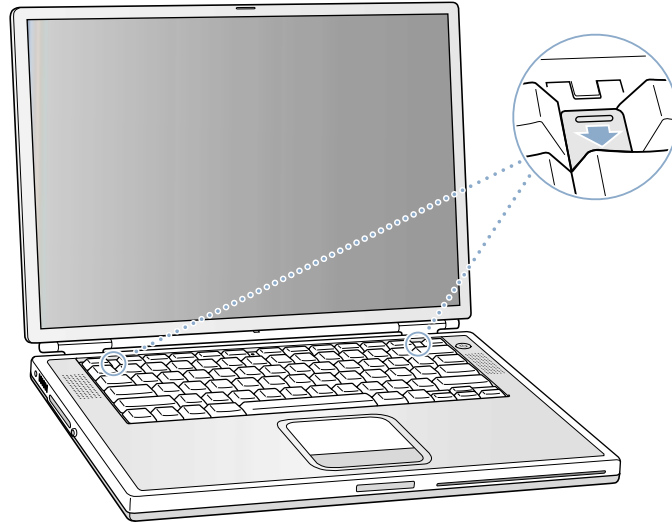

Figure 9
6. Pull down on the keyboard release tabs and then press down on the top portion of the keyboard (**Figure 9**). Release the tabs to secure the keyboard in place.